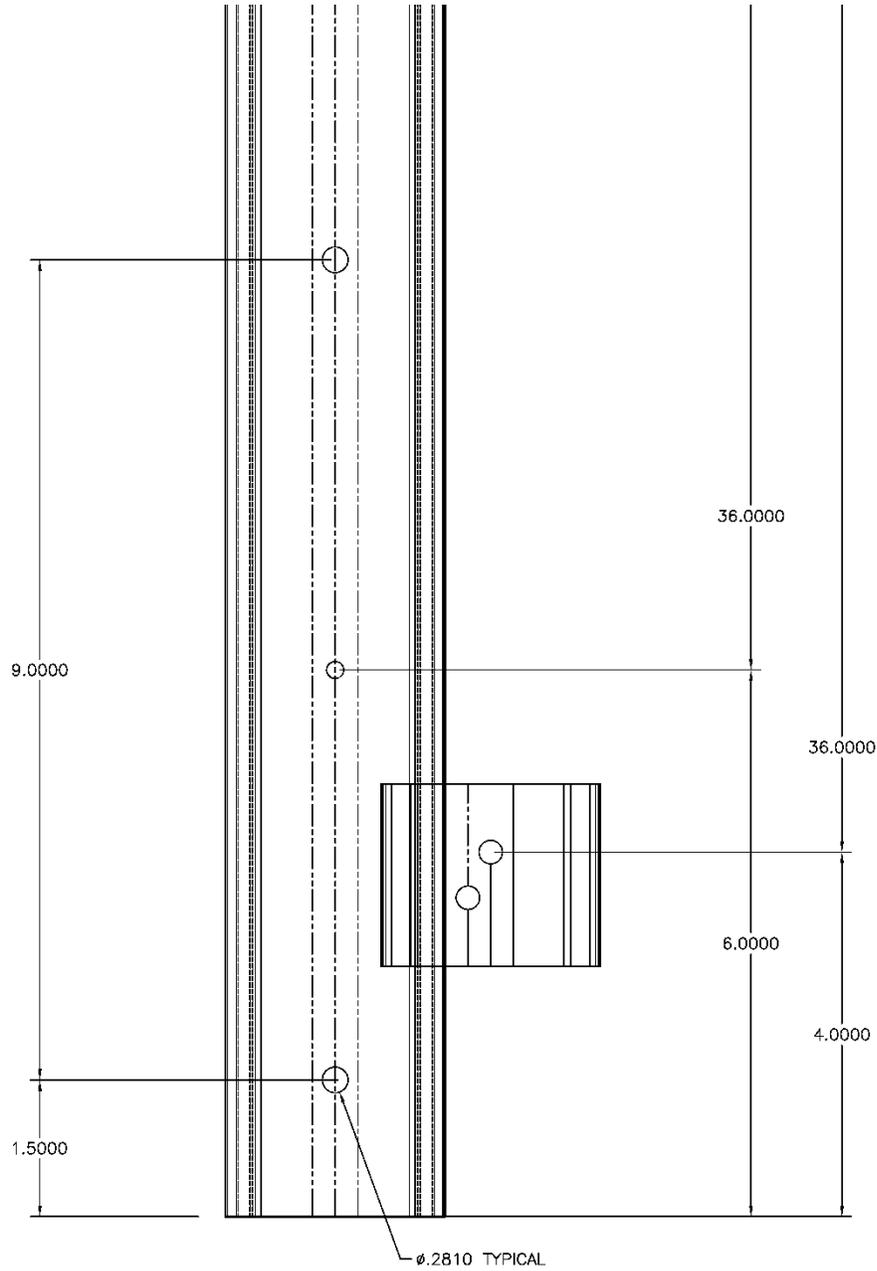

FIGURE I.2
- Map out your temporary clip locations. 4" from one end and 36" (OC)-On Center, at horizontals and verticals. (FIGURE I.2)